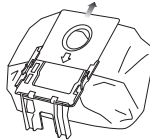

Fig. 12
- 5** Slide the dust bag out of the holder, taking care not to spill any dirt, and throw the bag away. (Fig. 12)